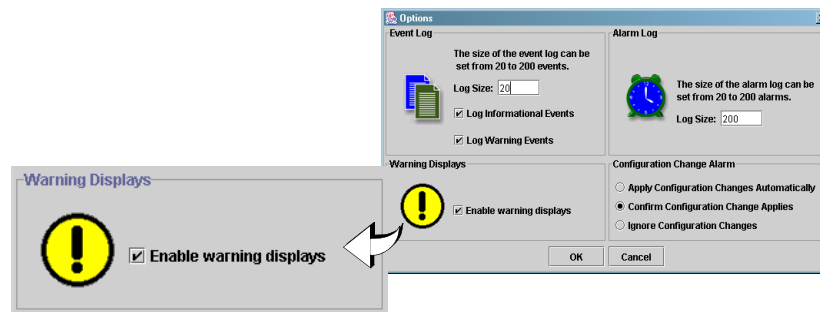

Figure 6-6. Options Dialog Box—Warning Displays Section
1. On the SANblade Manager main window **View** menu, select **Options**. The **Options** dialog box displays (see figure 6-6).